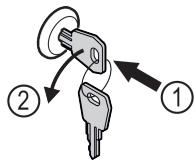

Fig. 183
- ▶ Insert the key. Fig. 183 (1)
- ▶ Turn the key anticlockwise by 90°. Fig. 183 (2)